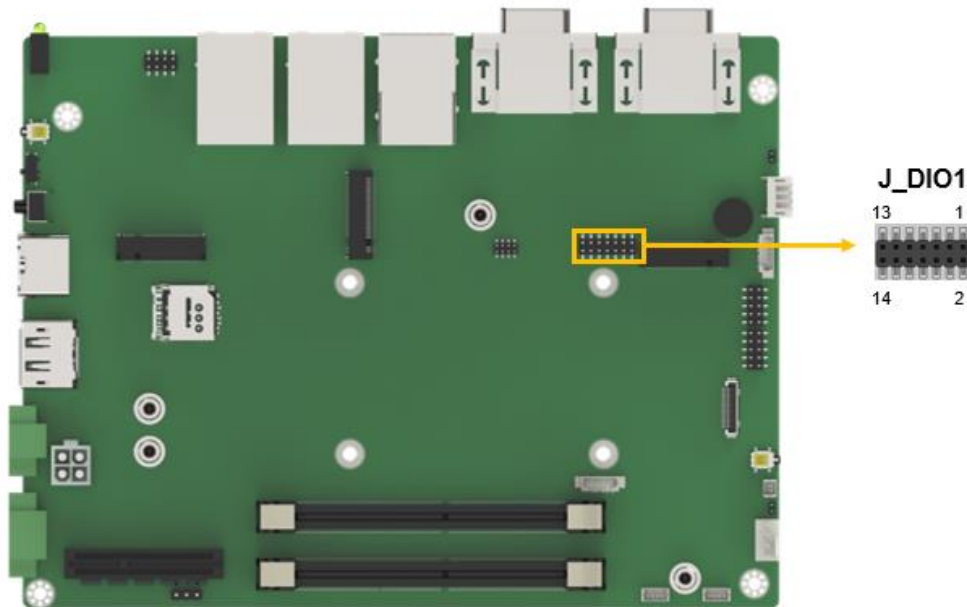

Figure 4-7: Digital I/O Connector Location
- CN Location:** See Figure 4-7